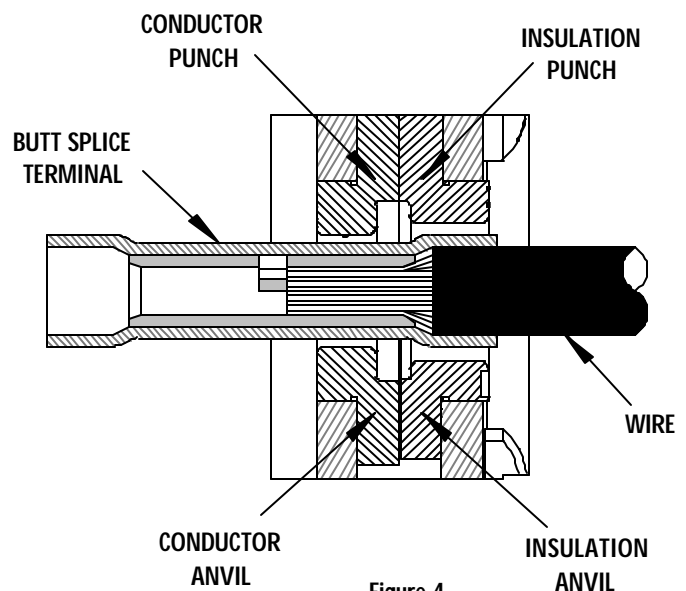

Figure 4
6. When crimping butt splices, or 3-way and 4-way terminals the locator must be removed. Splices must be aligned with the tooling visually in the insulation crimp (See Figure 4). The splice should be approximately centered inside the tooling nests (See Figure 4). Cycle the tool.
Do not oil excessively. The 64001-1500 (RHT-2200) was engineered for durability, but like any fine piece of equipment it needs cleaning and lubrication for a maximum service life of trouble-free crimping. A light oil, such as 30 weight automotive oil used at the oil points shown in Figure 4, every 5,000 crimps or 3 months will significantly enhance the tool life and ensure a stable calibration.